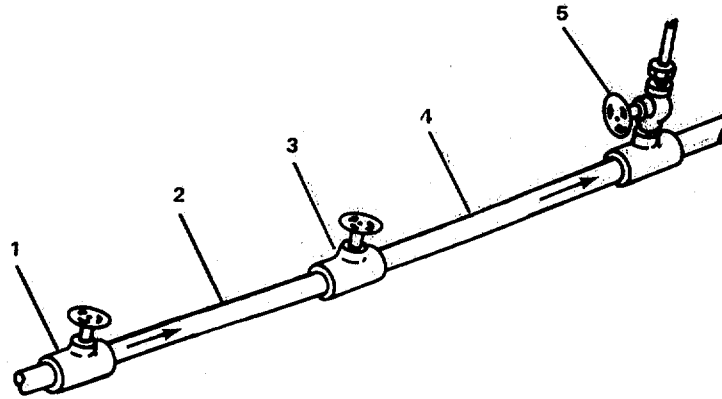

FIGURE 3-212. Repair Welded Valves (Typical).
**3-228. Replace/Repair Welded Valves. (Figure 3-212).**